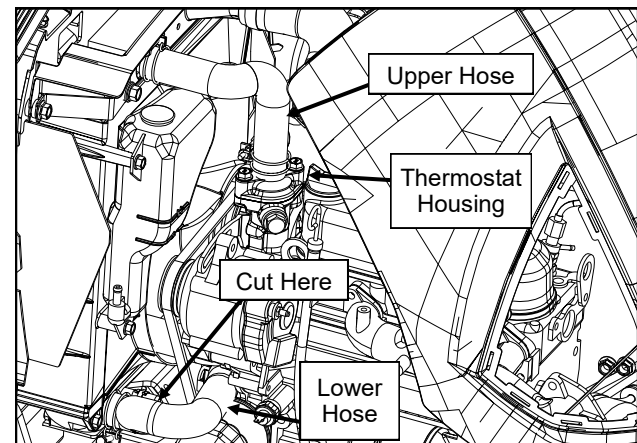

Figure 2.4 (Right Side of Engine Bay)
- 2.4 Locate the lower coolant hose on the right side of the engine. See Figure 2.4. Cut the lower hose between the two 90° bends as shown and let any remaining coolant drain into a clean drain pan.